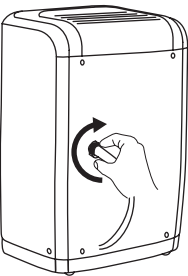

fig. 3
3. Screw the garden hose onto the threaded portion of the connector. (fig.3)